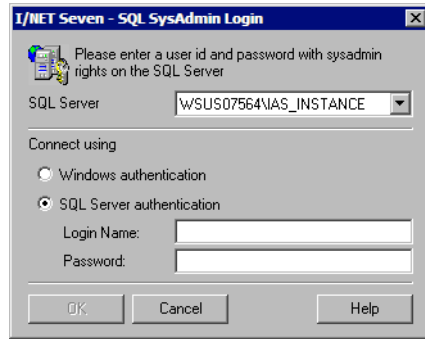

Figure 2-18. SQL System Administrator Login
21. DbCreate automatically launches and prompts you to log into the appropriate SQL server (see Figure 2-18).